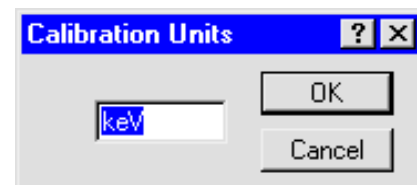

Fig. 70. Calibration Units Inputs.
5. After the second peak value is entered, the program will ask for up to four characters for the units (see Fig. 70).